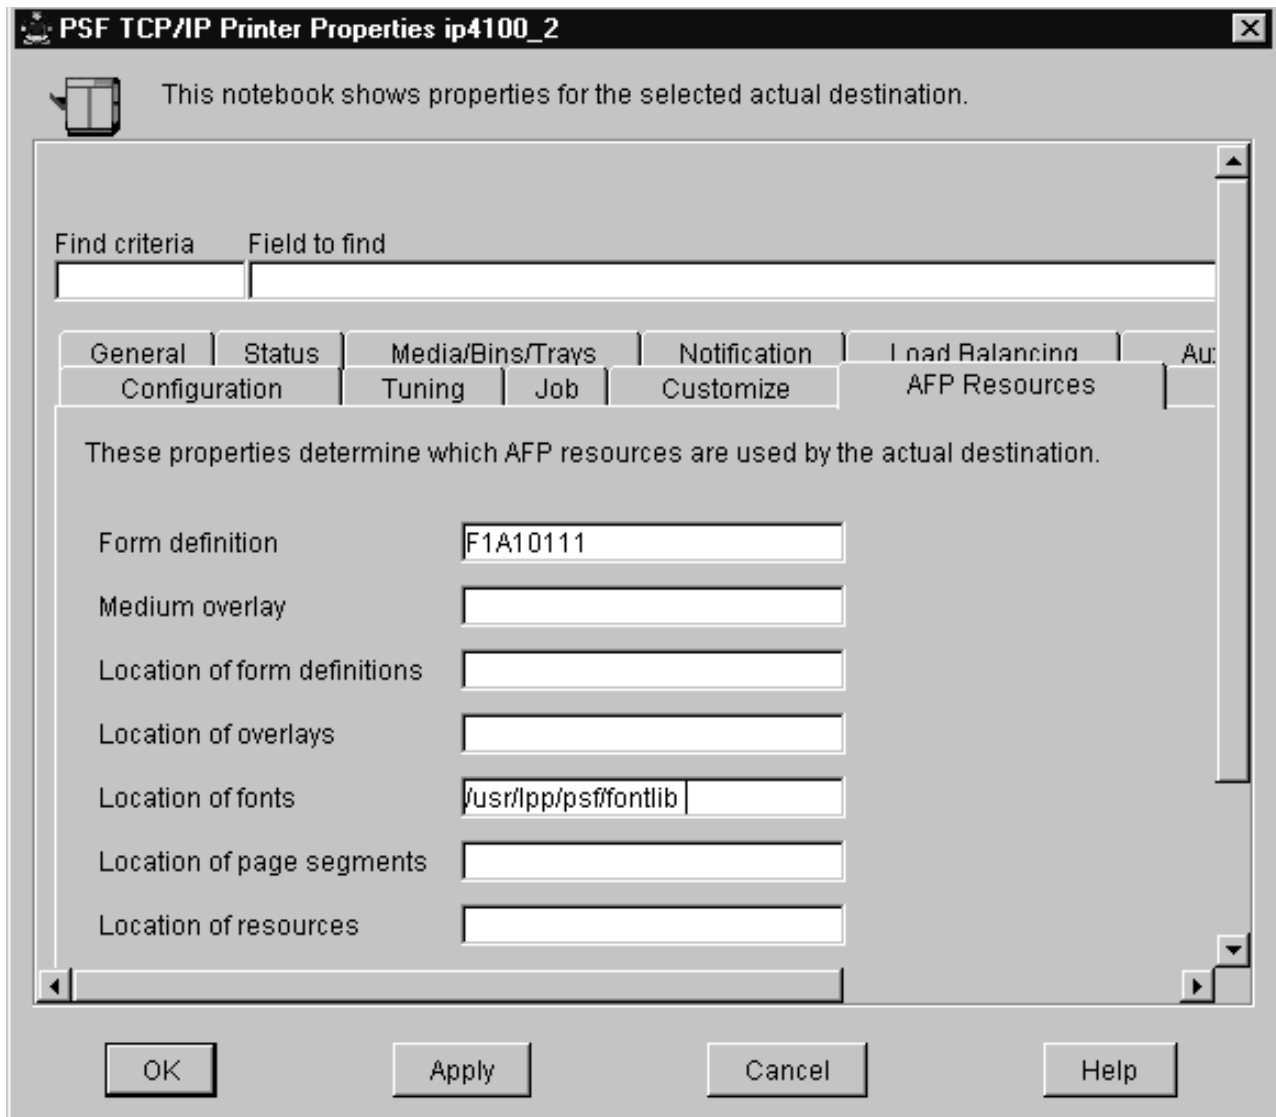

Figure 58. Printer Properties window for specifying the Fonts Path on AIX.
- `/usr/lpp/psf/fontlib` in the **Location of fonts** field, as shown in Figure 58 on Infoprint Manager for AIX